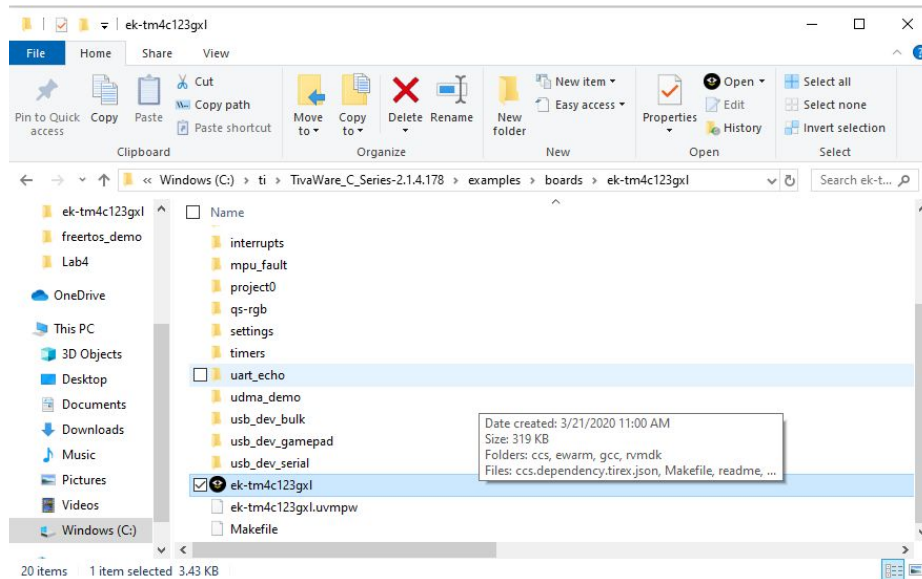

Figure 5: IAR Workbench file inside ek-tm4c123gxl
3. Open the IAR Workspace file in the ek-tm4c123gxl directory to open the IAR Project. This file is shown in Figure 5.